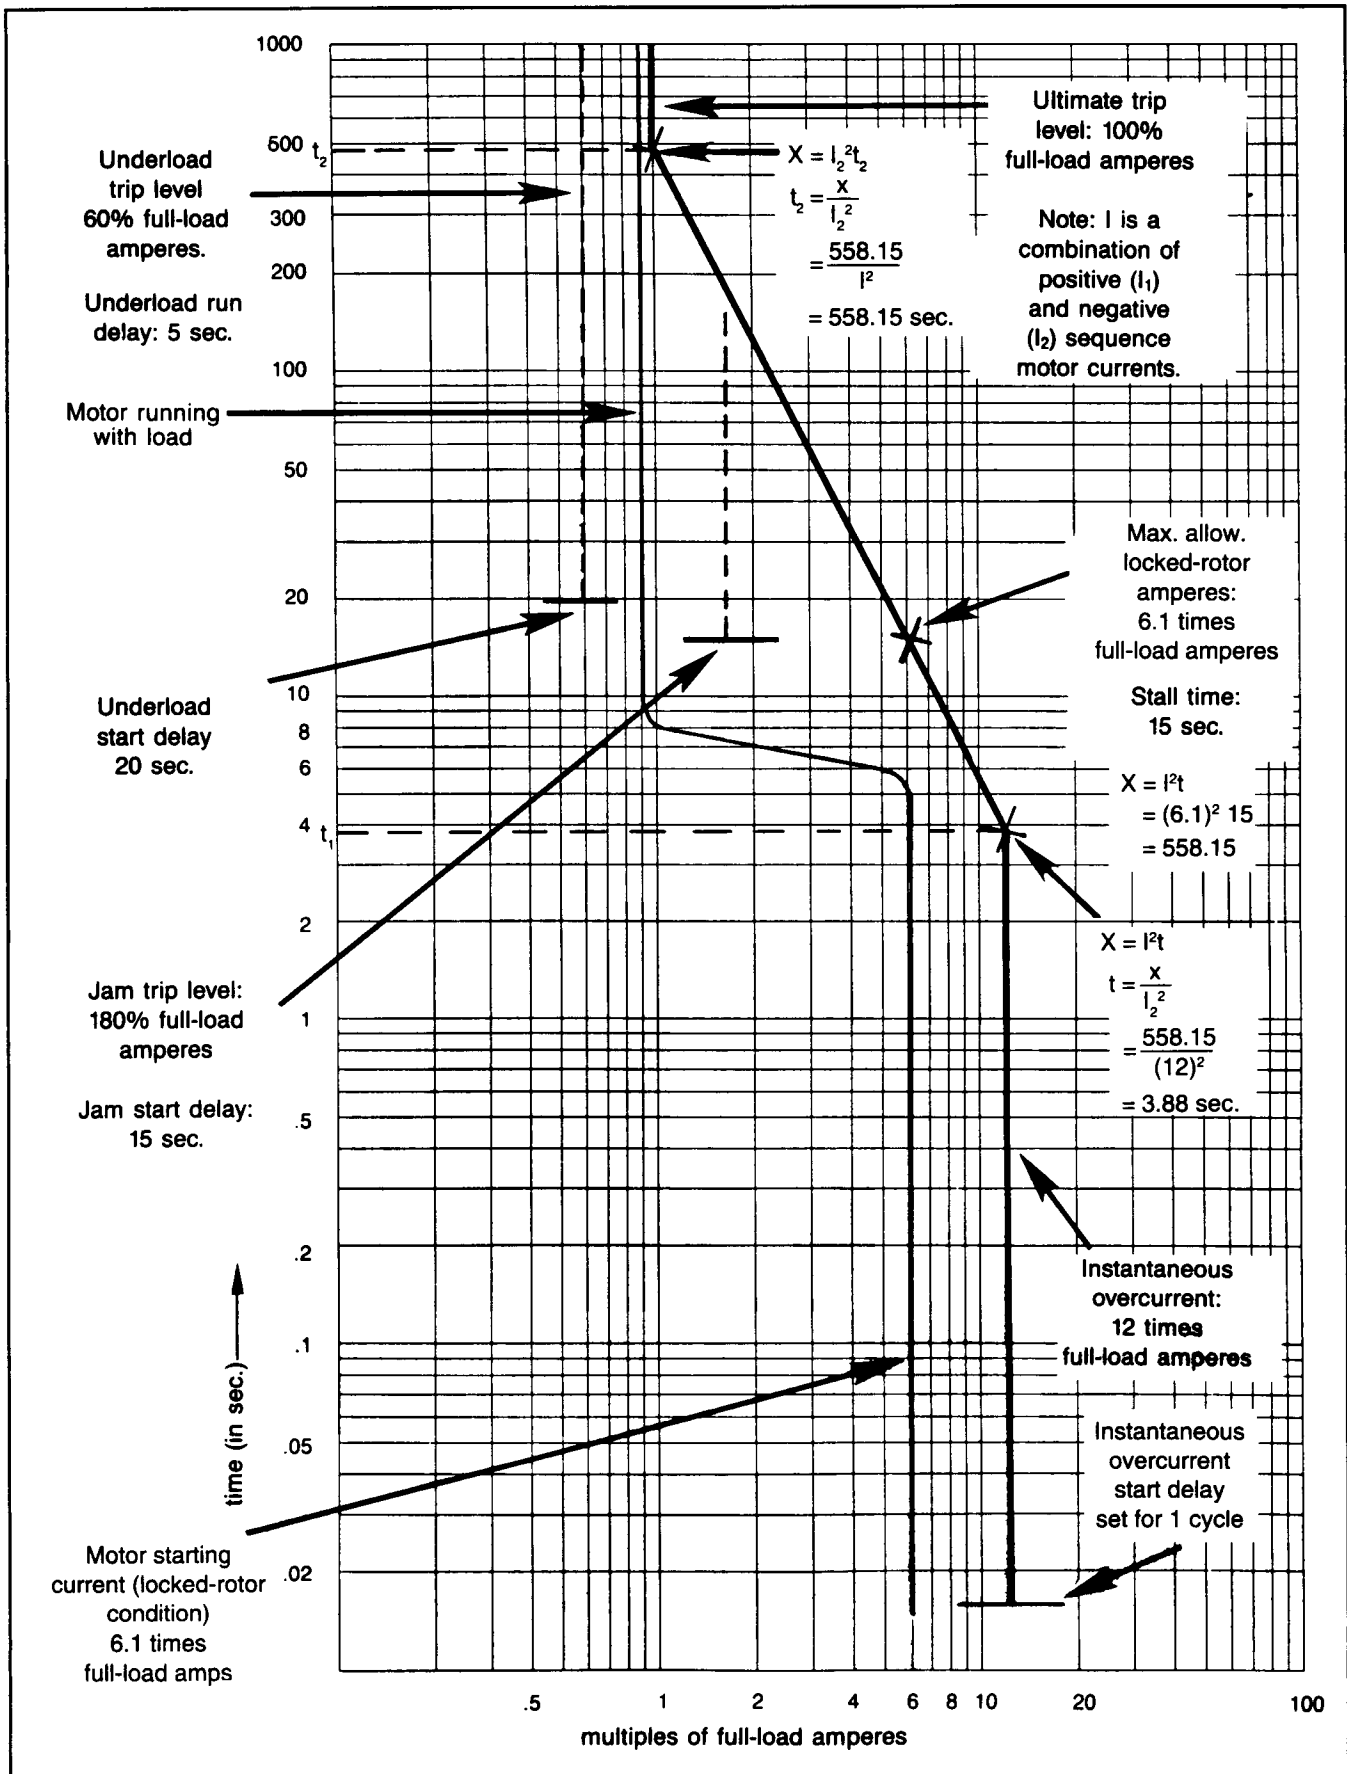
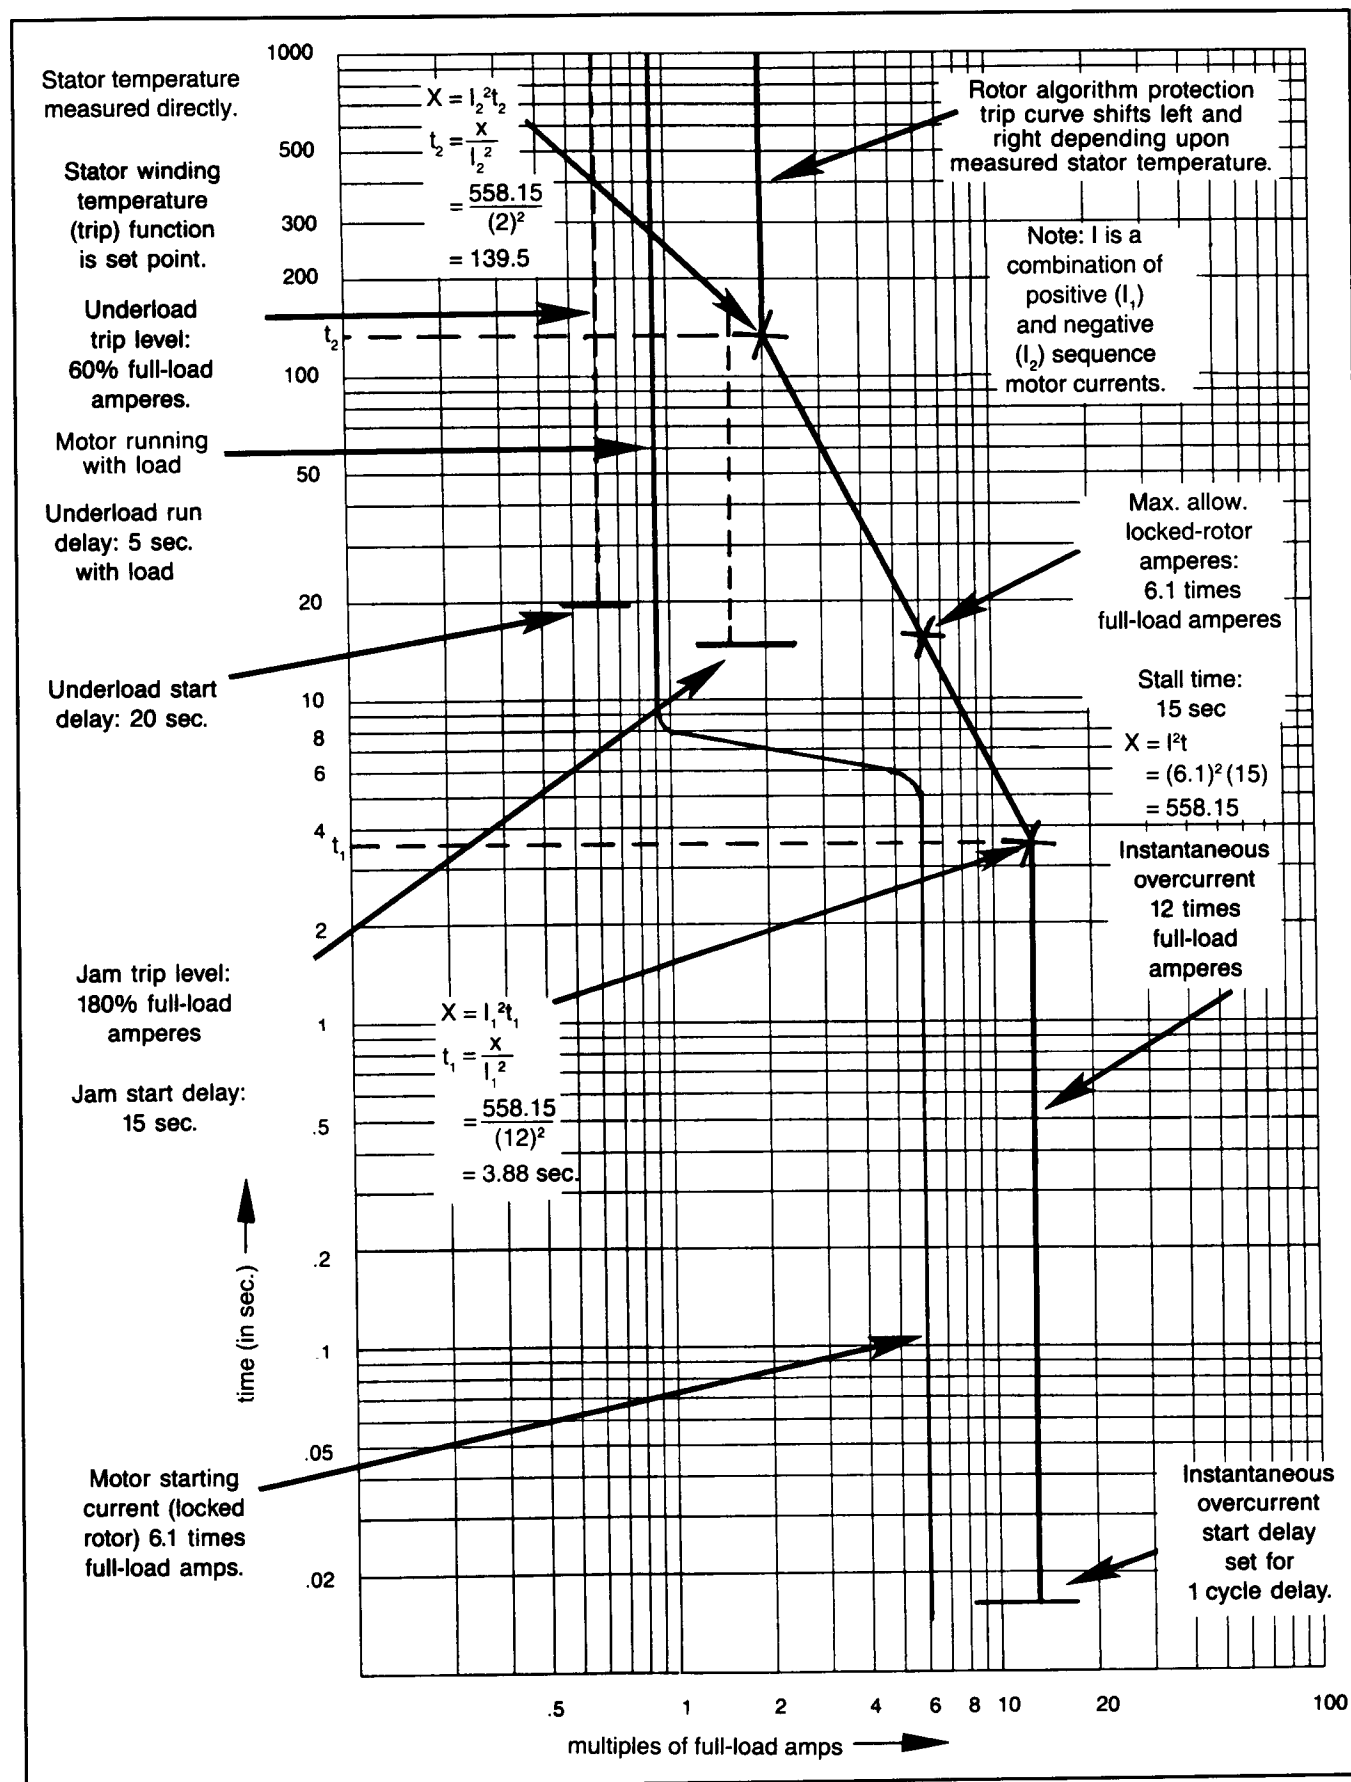

Figure 7.4 — Motor Protection Curve (without RTDs)
Figure 7.5 — Motor Protection Curve (with RTDs)
the IQ-1000 II without RTDs are shown in Figure 7.4. The use of RTDs is assumed in Figure 7.5. The following data were used:
The difference in the typical curve caused by the addition of RTDs is shown in Figure 7.5. It centers on the time period after 60 seconds. (When RTDs are used, the actual monitored temperature automatically overrides the ultimate trip function's setpoint.)
The effects of the motor winding temperature (items 3 and 7) setpoints, which can be used with RTDs, are not evident in Figure 7.5. These functions are independent of the effects of temperature on the I2T algorithm's trip curve. These functions' setpoints are based on the recommended maximum stator temperature, as supplied by the motor manufacturer. Depending upon the specific motor winding temperature setpoints, the temperature trip curve shifts to the left or right.